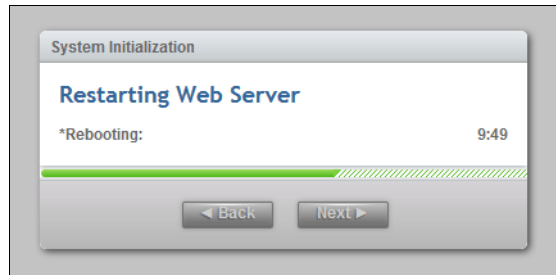

Figure 2-20 System Initialization: Restarting Web Server
9. The system takes approximately 10 minutes to reboot and reconfigure the Web Server as shown in Figure 2-20 on page 56. After this time, click **Next** to proceed to the final step.